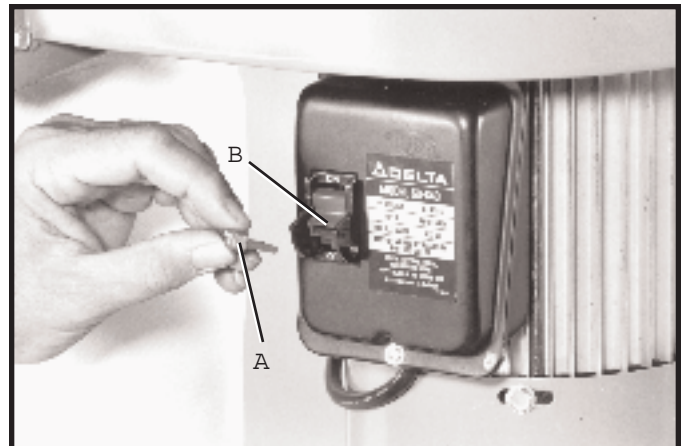

Fig. 21
We suggest that when the dust collector is not in use, that the switch (B) be locked in the OFF position. This can be done by grasping the switch toggle (A) Fig. 21, and pulling it out of the switch (B) as shown. With the switch toggle (A) Fig. 21, removed, the switch will not operate. However, should the switch toggle (A) be removed while the dust collector is running, it can be turned OFF once, but cannot be restarted without inserting the switch toggle.